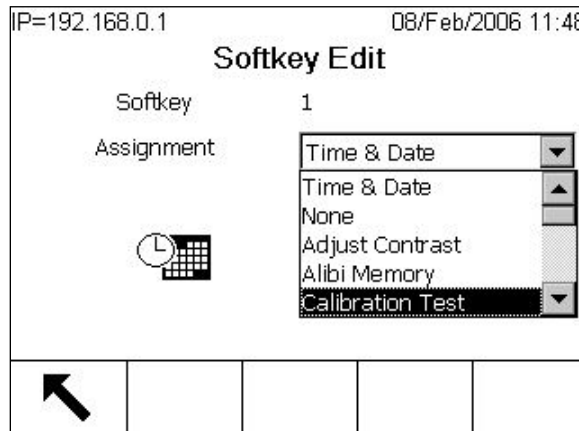

Figure 3-106: Soffkey Edit Setup Screen
-  **Edit** Changes the soffkey in the selected position to another soffkey or to none, which leaves the soffkey position blank. Editing a blank position does not move the position of following soffkeys. Figure 3-106 shows the Soffkey Edit screen with the Assignment dropdown list in focus.